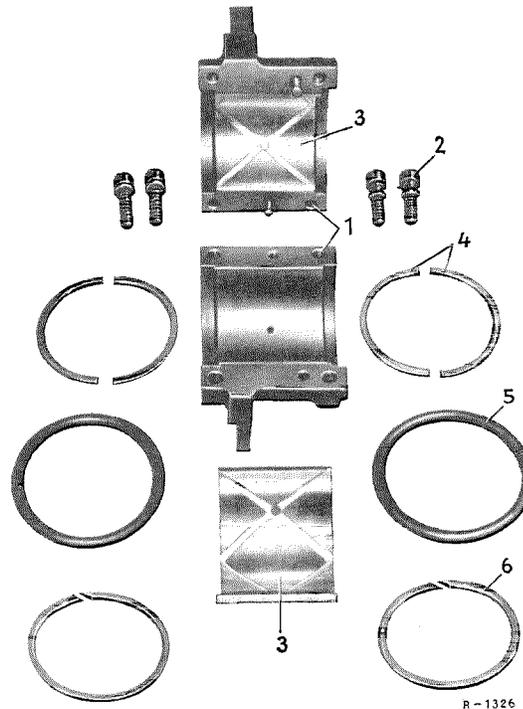

Fig 35-5/11
**5** Unscrew hex. socket screw and remove brake hose holder (8).
**6** Separate bearing housing halves (Fig. 35-5/11).